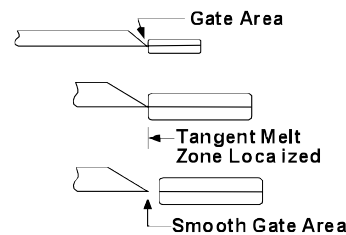
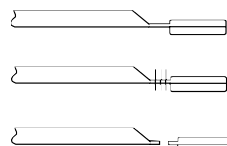

Figure 2 Correct gate design
Figure 3 Incorrect gate design
1. The gate area must be designed to focus the vibratory energy to a point tangent to the surface of the part. See Figure 2. The design shown in Figure 3 does not properly focus the energy and could allow a section of the gate to remain on the part.